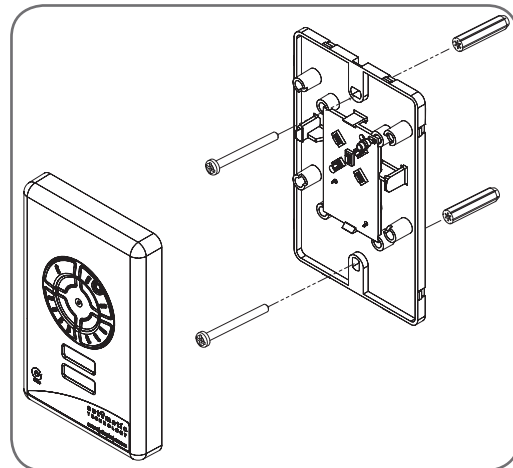

fig 44
- Affix the baseplate in a convenient wall location (**Fig 44**) that is the door is visible from this location. but out of the reach of children at a height of at least 1.8 meters from the floor.